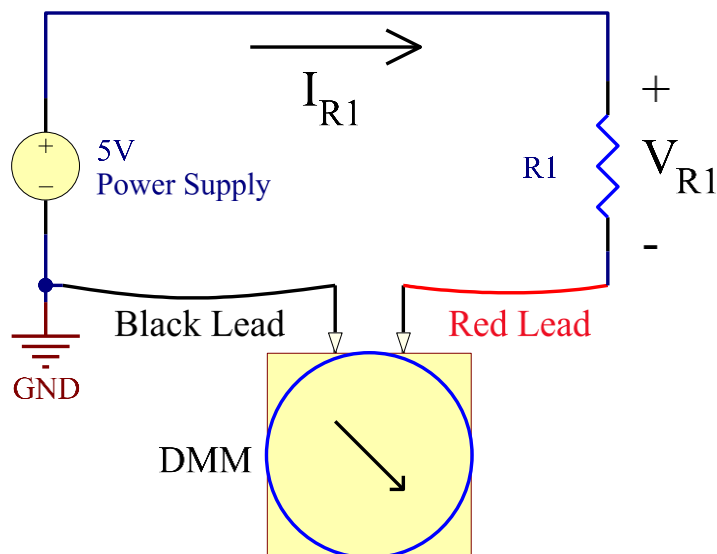

Figure 9
- Connect the DMM **in series** with the resistor R1 to measure the current through R1. This has to be done because current is a "**through**" variable. To make a current measurement, the DMM has to be connected as shown in Fig. 9.